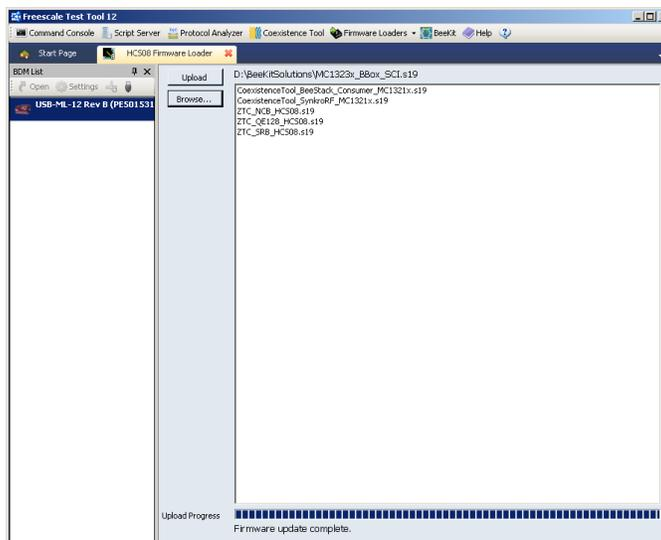

Figure 4-11. HCS08 Firmware Loader Window
1. From the Test Tool main menu, choose View->Firmware Loader->HCS08 Firmware Loader. The HCS08 Firmware Loader appears as shown in Figure 4-11.